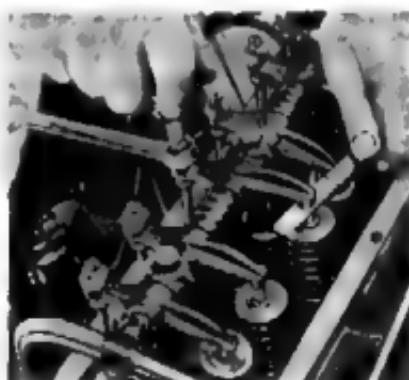

Fig. 30—Valve Tappet Adjustment
3. Check the clearance between the rocker arms and the valve stems with a feeler gauge (fig. 30). The clearance should be as follows:
4. When adjustment is necessary loosen the rocker arm adjusting screw lock nut and turn the screw clockwise slightly to decrease clearance and counterclockwise to increase clearance (fig. 30). Tighten lock nut and recheck clearance.